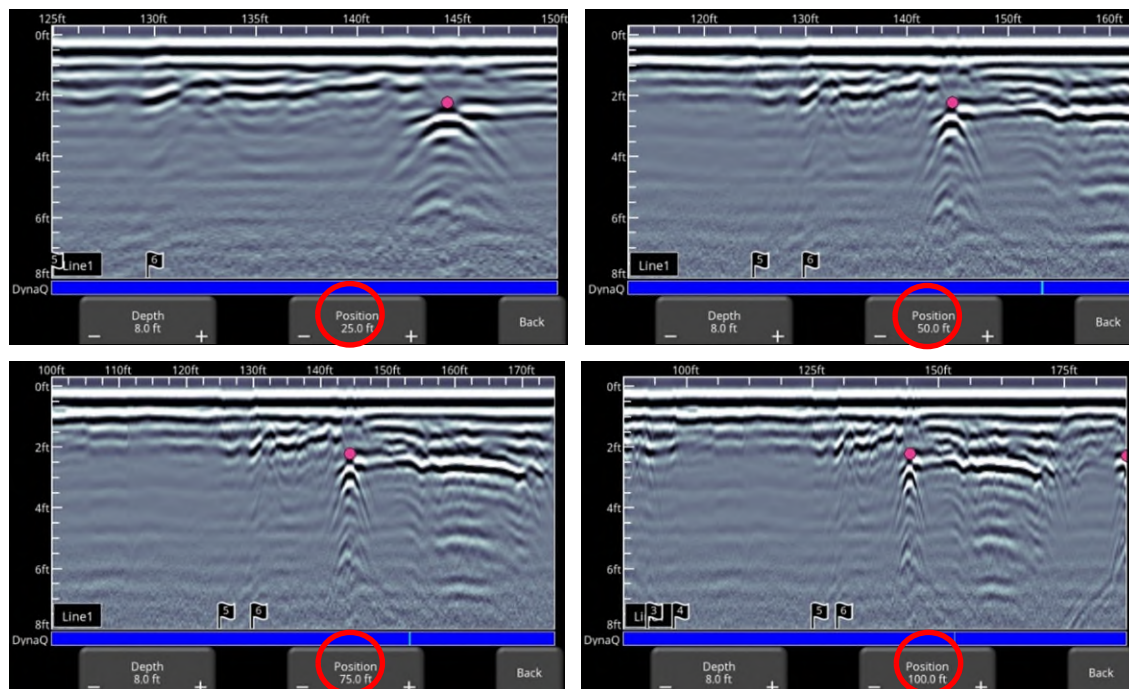

Figure 6-13: Varying position, or horizontal scaling
- **Position** – Pressing **+** and **-** under the **Position** button allows you to change the length of data displayed on a single screen. This is also known as horizontal scaling. The pre-set values range from 5m to 30m (10' to 75'), see Figure 6-13.